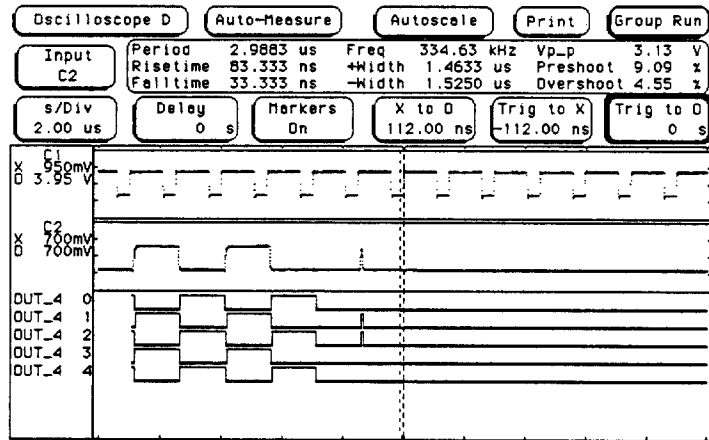

Figure 10-18. Displaying Multiple Module Data on One Screen
8. Touch **DONE** and the **WAVEFORM SELECTION** pop-up will disappear, returning you to the waveform display. As shown in figure 10-18, the five HP 16510A timing analyzer channels (OUT_4) are now displayed with the HP 16530A/31A oscilloscope channels C1 and C2 on the **Oscilloscope D Auto-Measure** menu.